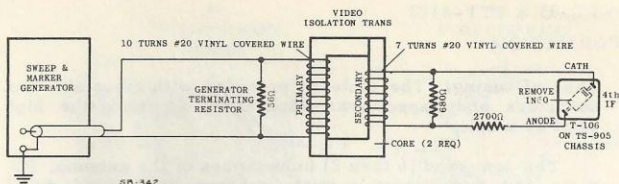

FIGURE 26. ISOLATION TRANSFORMER DETAIL
*Isolation transformer must be constructed by the service technician (see Fig. 26). The cores required for construction may be obtained on Motorola Part Number 76A743676.